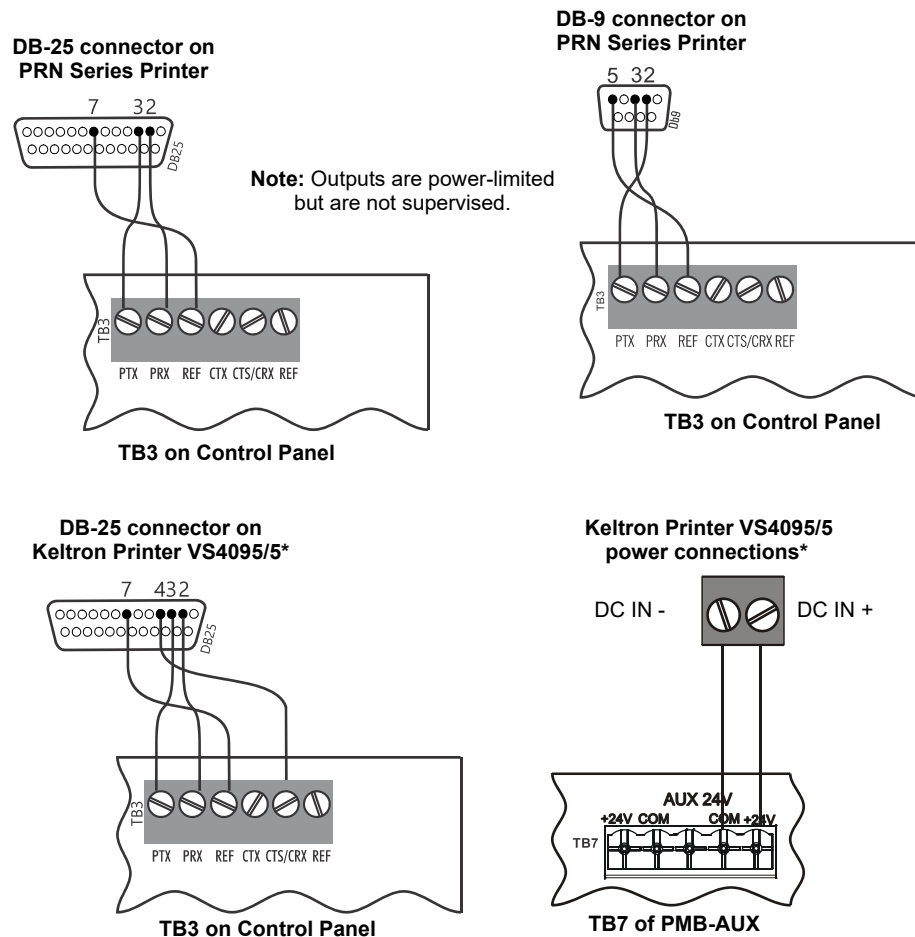

Figure 2.31 Printer Connections
1. Fabricate a custom cable to connect a printer to the system. Length of the cable will vary with each installation, but should not exceed a maximum length of 50 feet (15.24 meters). Printer must be installed in the same room within 20 feet (6.10 meters) of the panel. Using overall foil/braided-shield twisted-pair cable, properly connect one end to the DB-25 or DB-9 Connector (provided) using the wiring specifications shown in Figure 2.31.
2. Tighten clamp on connector to secure cable. Connect the four open leads of the custom cable to the TB3 terminal block on the CPU as shown in Figure 2.31.
3. If installing a Keltron Printer VS4095/5, connect 24 VDC non-resettable power from a UL-listed power supply to the Keltron printer as shown in Figure 2.31 (14 AWG).